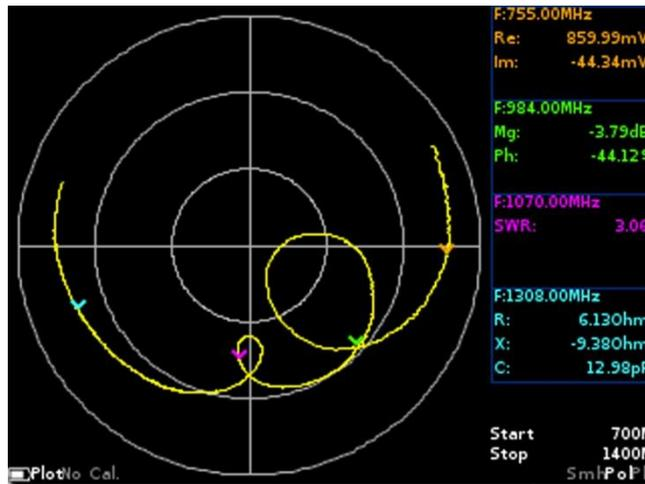

Figure 10.2 – Polar chart
10.2.1. The polar chart is intended to display the complex reflection coefficient in a two-dimensional coordinate system (Figure 10.2). The chart is similar to the Volpert-Smith chart, but its scale grid is reduced to specific values of the VSWR - 2; 5. On the device screen is indicated as **Pol**. Enabling or disabling the display of this chart on the screen is made as indicated in par. 9.3.
In our example, in Figure 10.2, a GSM antenna with an operating frequency of 900 MHz is being tested. The chart includes four markers, and the display of the VSWR limit line is disabled. Measurement values at a fixed marker frequency in specified units are displayed to the right of the chart.